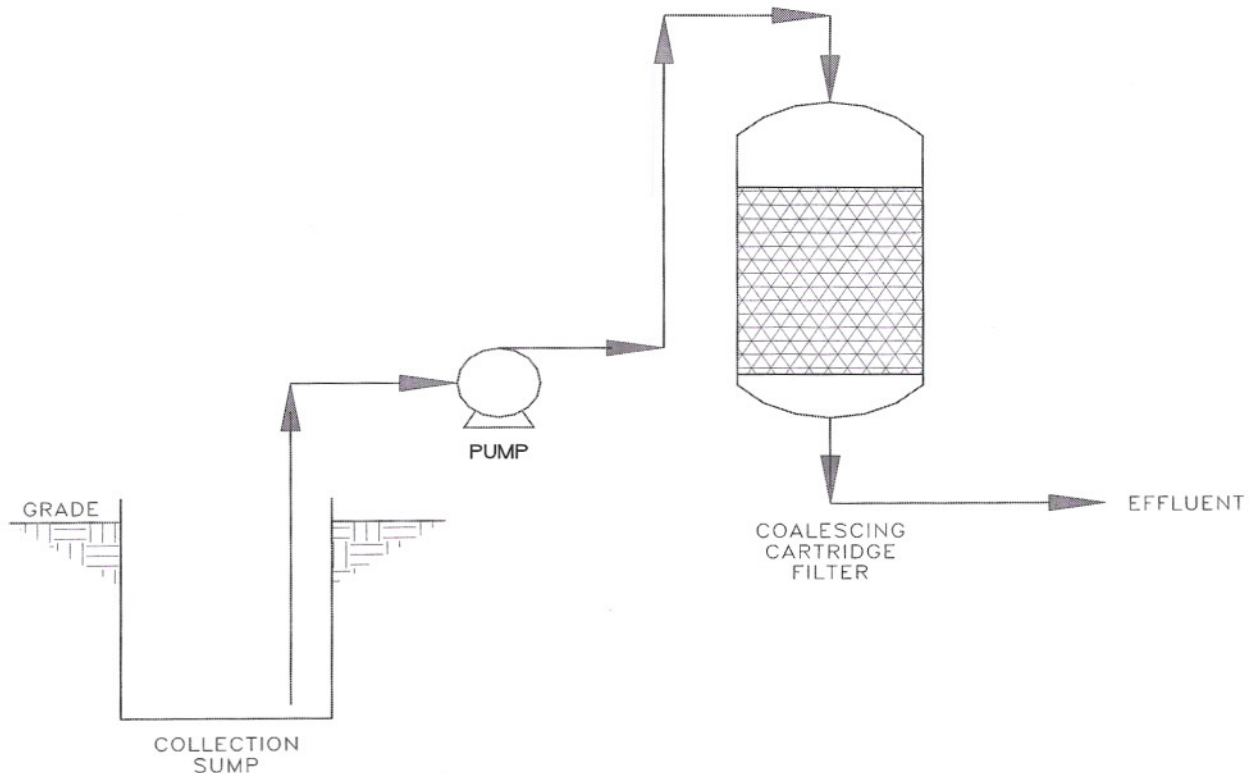

Figure 2
A. Mechanically emulsified oils are formed when stormwater runoff is **pumped** with a centrifugal type pump. The use of a positive displacement type pump does not generate mechanically emulsified oils. Mechanically emulsified oily water is milky white in appearance. If it is present, its removal must be accomplished with more sophisticated equipment than a simple gravity separator. For automotive dealership/service stations, a coalescing cartridge type filter will effectively remove mechanically emulsified oils as shown in Figure 2.